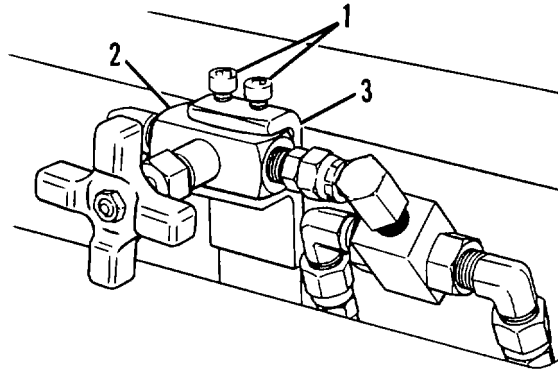

Figure 4-39. Bypass Valve.
- (d) Loosen two socket head screws (1, Figure 4-39) securing bypass valve (2) to bracket (3). Remove bypass valve and allow to hang.